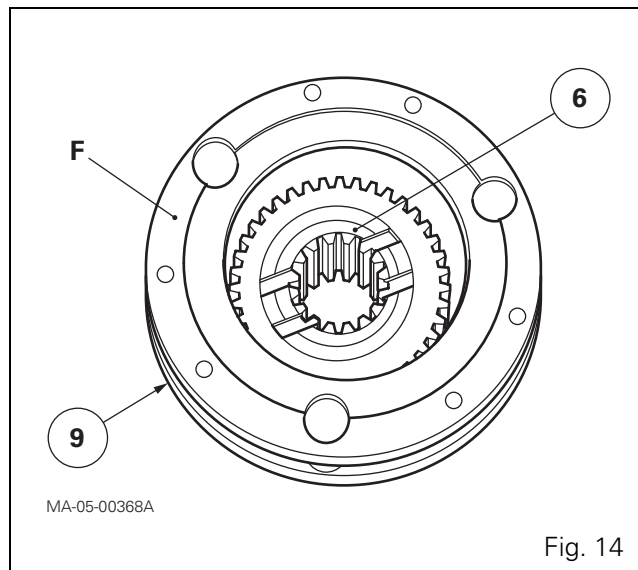

Fig. 14
32. Put the output sun gear (6) in the unit (9), turning the sun gear lubricating grooves towards face "F" of the unit (Fig. 14).
33. Install the needle roller bearings (16), separated by a spacer (14) in a planet gear (12).